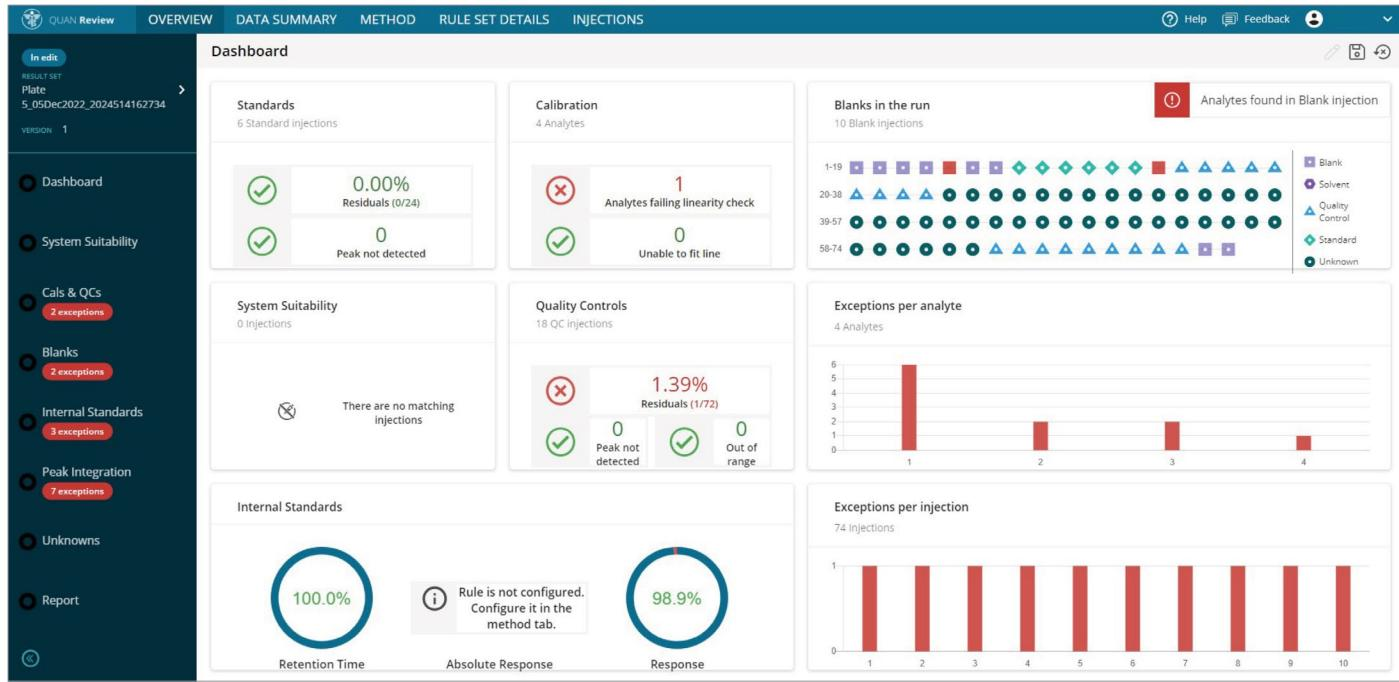

Figure 3. An example of the Overview page showing exceptions in the Cals & QC (n=2), Blanks (n=2), Internal Standards (n=3), and Peak integrations (n=7).
- The Dashboard summarizes the batch status and highlights data exceptions utilizing the applied rule set (Figure 3).
On a single page, the user is able to review all the batch-specific performance data including system suitability, calibrators and QC, blanks, internal standards, peak integration and unknown samples (Figure 3). A task-oriented workflow decouples complicated data review into simplified steps which allows the user to quickly navigate through data and accelerates the review process.